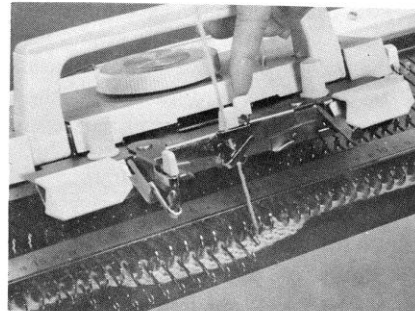

Fig.125
- b) Still lifting the carriage at the front and, at the same time move back the carriage to the starting end of this row. (Fig.125)